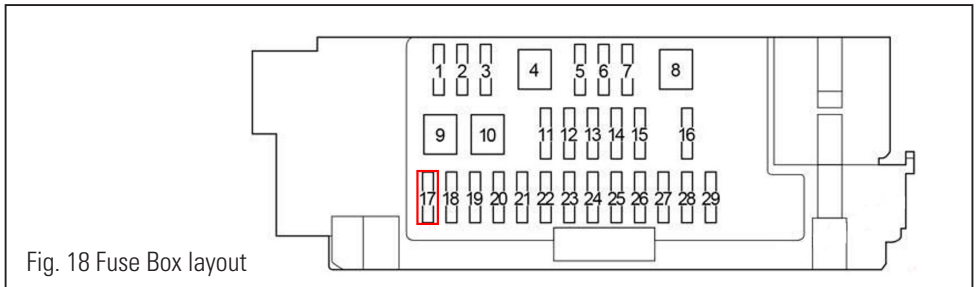
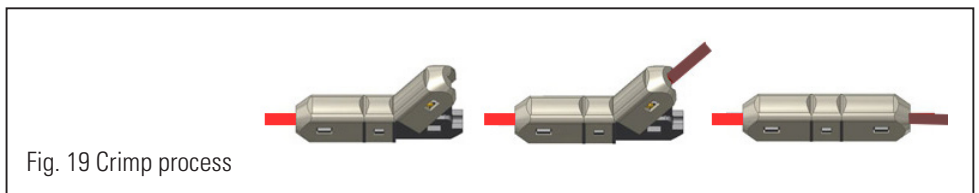

Fig. 18 Fuse Box layout
Fig. 19 Crimp process
1. Using the supplied fuse tap, connect the brown wire (item 10 Fig. 1) to a suitable ignition source via the passenger footwell fuse box. Lightforce recommends selecting a non-critical source with a 10A or less fuse such as no. 17 (Fig. 18). Using needle nose pliers, crimp the brown ignition pickup wire to the crimp attached to the end of the fuse tap (Fig. 19)